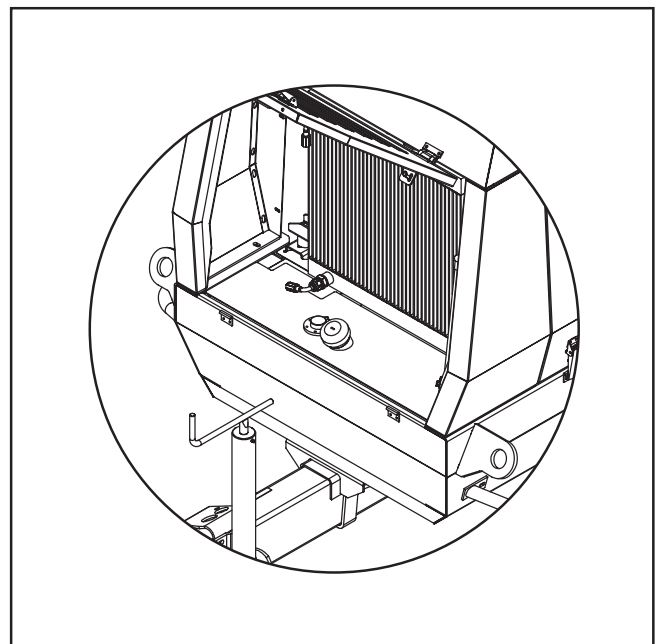

FIG.25
- Avoid condensation problems inside the tank with machine cold by topping-up the diesel oil tank (FIG.25) at end of work session.